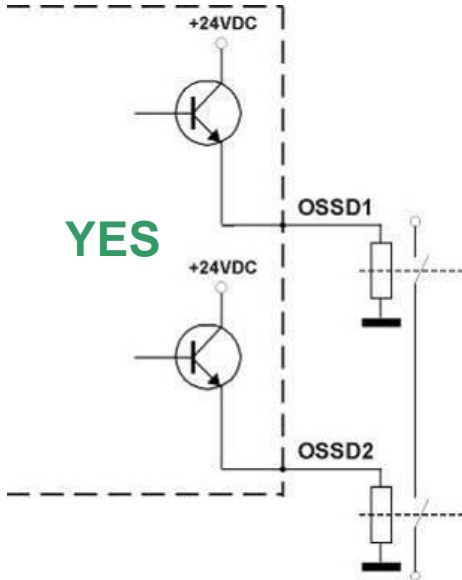

Fig. 14
- The OSSD1 and OSSD2 safety contacts cannot be connected in series or in parallel, but can be used separately (Fig.14). If one of these configurations is erroneously used, the device enters into the output failure condition (see cap.7 “Diagnostic functions”).